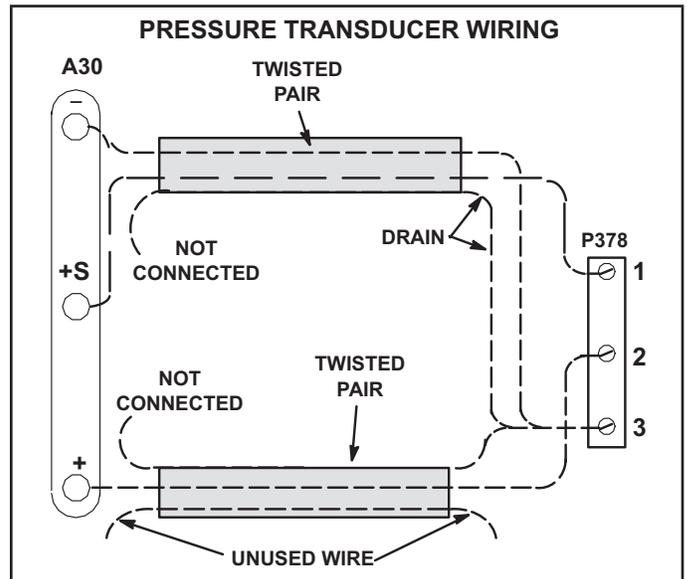

FIGURE 25
- 2 - Two twisted pairs of shielded cable must be used to connect the pressure transducer. See FIGURE 25. J/P378 connector is hanging in the control box.